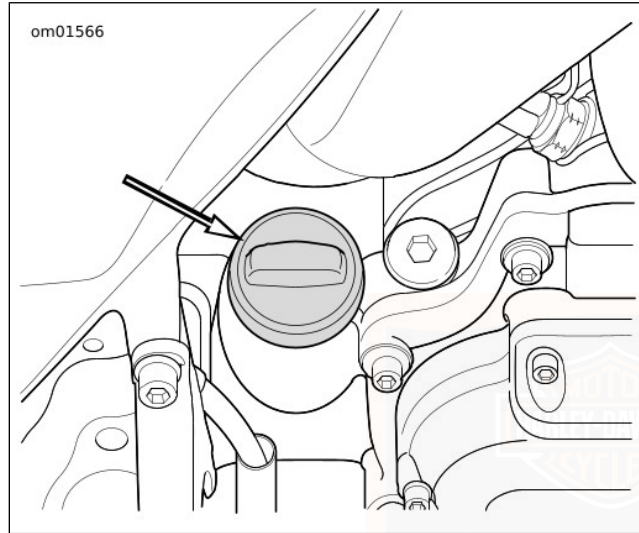

Figure 60. Engine Oil Filler Plug
2. See Figure 60. Check engine oil level.
3. See Figure 60. Check oil level.